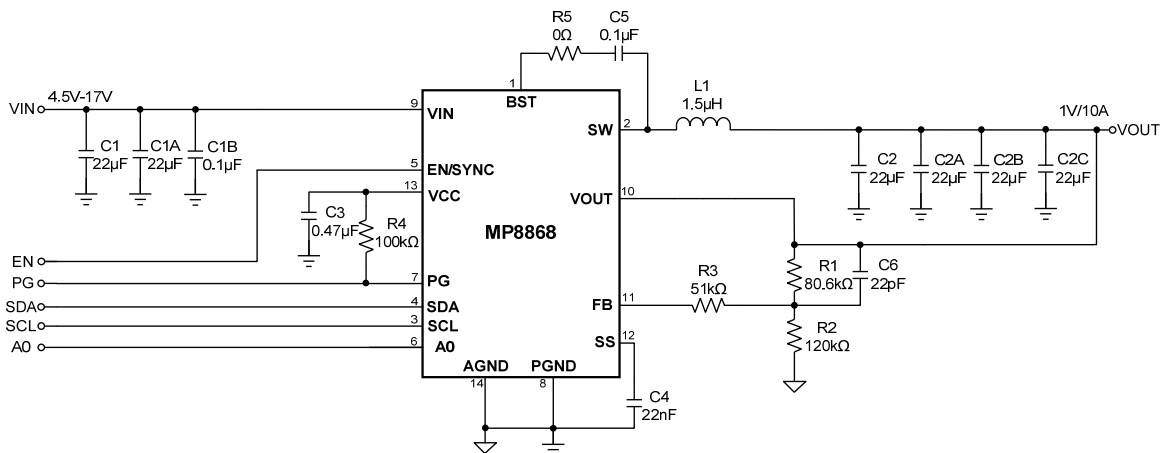

Figure 13: $V_{IN}=4.5-17V$, $V_{OUT}=1V$, $I_{OUT}=10A$
12) The recommended layout is based on the Figure 13 Typical Application circuit in page26.
The detailed application schematics are shown in Figure 13. The typical performance and circuit waveforms have been shown in the Typical Performance Characteristics section. For more device applications, please refer to the related Evaluation Board Datasheets.